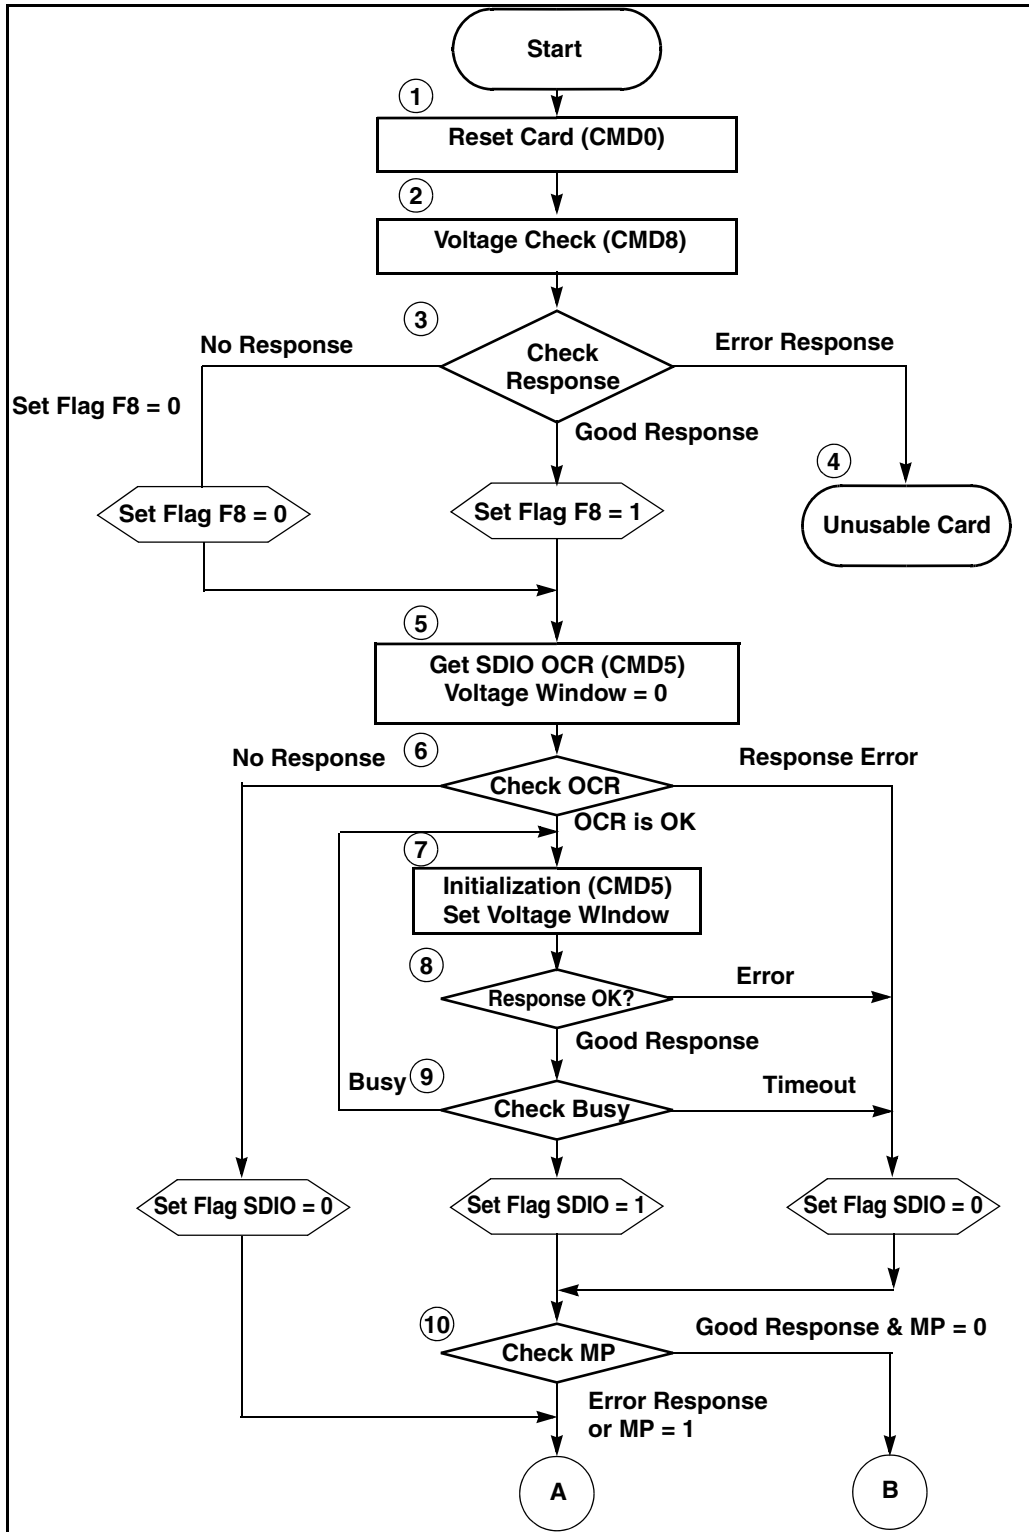
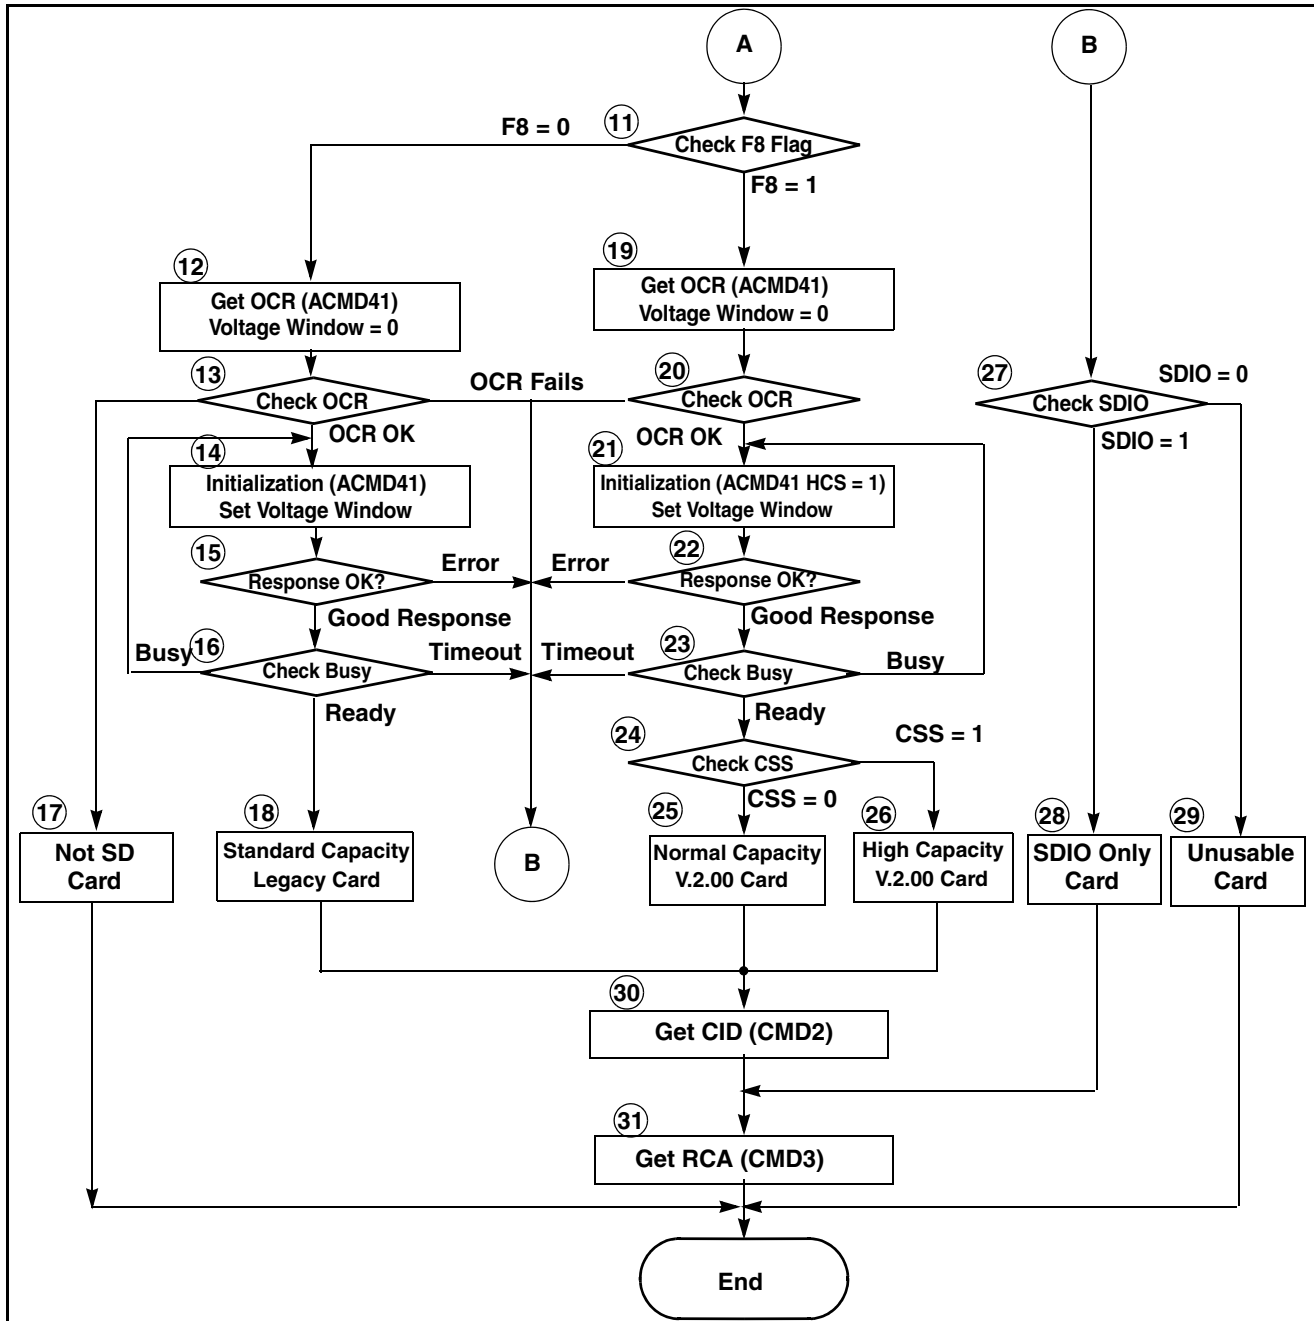

Figure 3. New Initialization Described in V.2.0 Specification — Part 1 of 2
Figure 4. New Initialization Described in V.2.0 Specification — Part 2 of 2
Before any communication with the card is done, it is absolutely necessary that the Secure Digital host controller be initialized. The SD host controller in the MPC5121e conforms to the SD specification v.1.x but can be forced to act and work as an SDHC capable controller. This is done during the card identification and initialization process, as shown in Figure 3 and Figure 4.
4. Initialization is stopped if CMD8 fails. The host driver should retry steps 1 to 3 one more time. (This is not described in Figure 3).
10. Good response in this step means that all responses received at (6) and (8) are valid. When response is good, MP (memory present) flag in the response can be checked. If the response is valid and MP = 0, go to step 28. Otherwise, go to step 11.